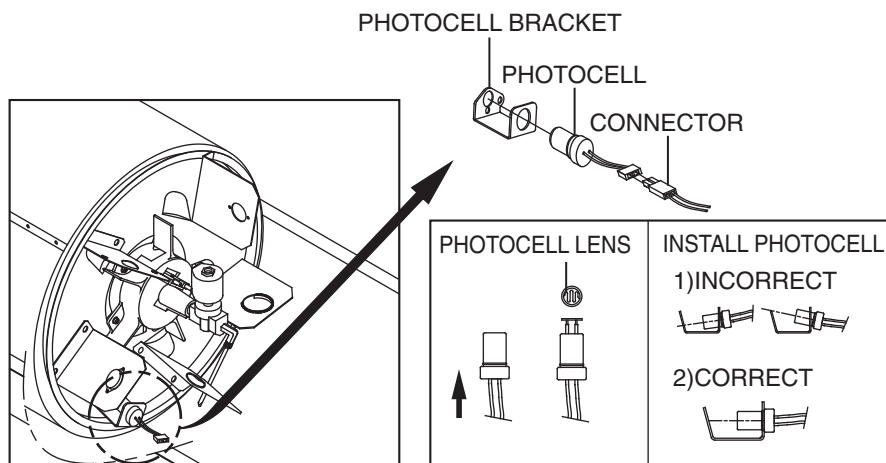

Figure 11. Clean photocell Lens
- Remove fan guard (See Figure 11).